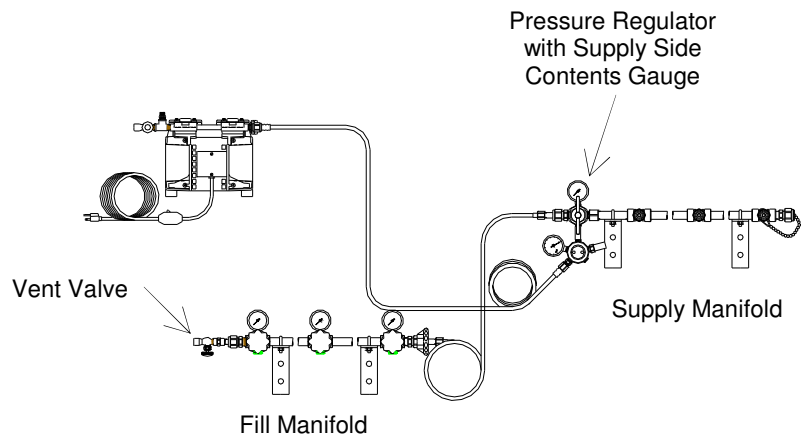

FIGURE 9
5. S-L-O-W-L-Y open the first cylinder valve on the supply manifold (turn handle counter-clockwise to open). The contents gauge on the pressure regulator will show the pressure of the supply cylinder. (Figure 9)